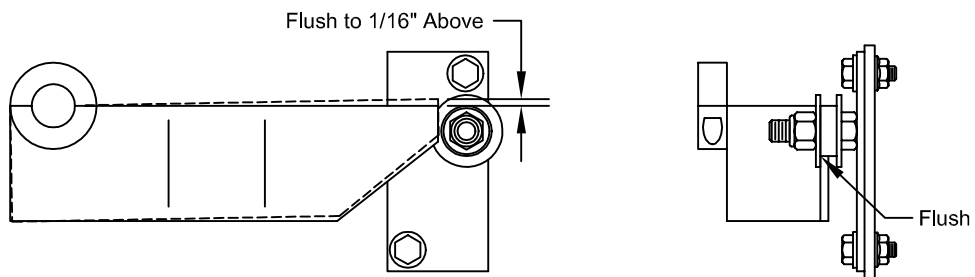

Figure 2
7. Align the top corner of the lock plate flush to 1/16" above the bearing and rest flush against washer, tighten allen bolts (see Figure 2).